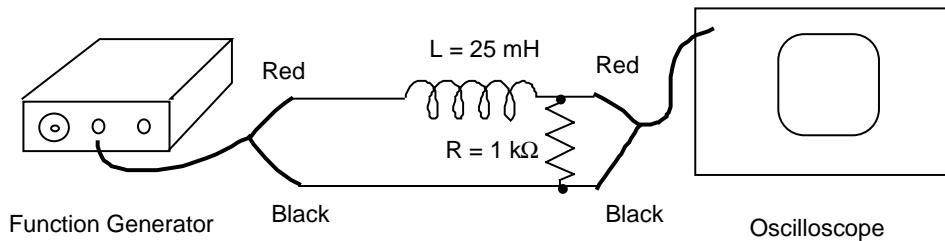

Figure 8. Investigating the LR circuit
- Set up the circuit shown in Figure 8 below.